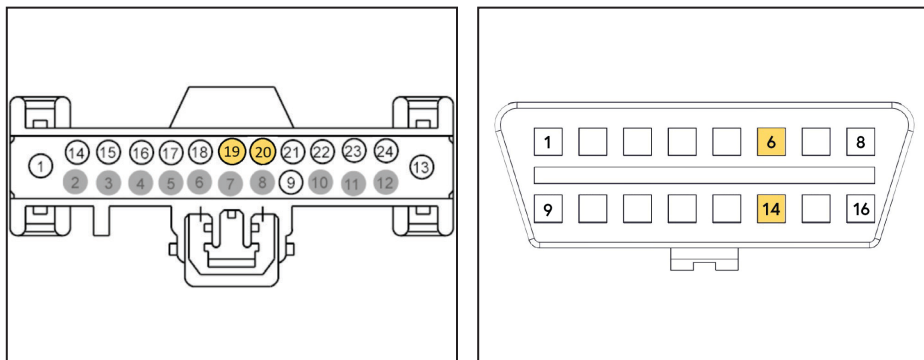

Figure 46 — Identify OBD II port.
- Determine whether the vehicle is equipped with the 24 pin Ford proprietary connector or the standard 16 pin connector (Figure 46).